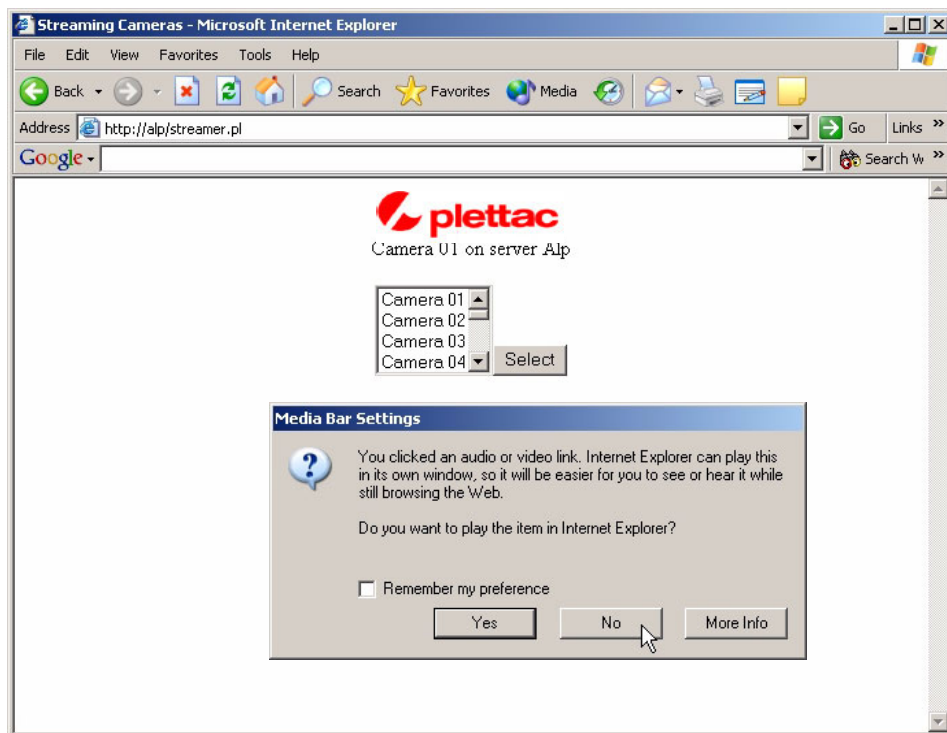

Figure 9-11: Opening a Streaming client connection
1. A dialog box appears prompting you to choose whether to run Windows media player as an independent application or embedded in your web browser. The example in Figure 9-11 shows the selection of the independent option, the result of which can be seen in Figure 9-12 on page 86...